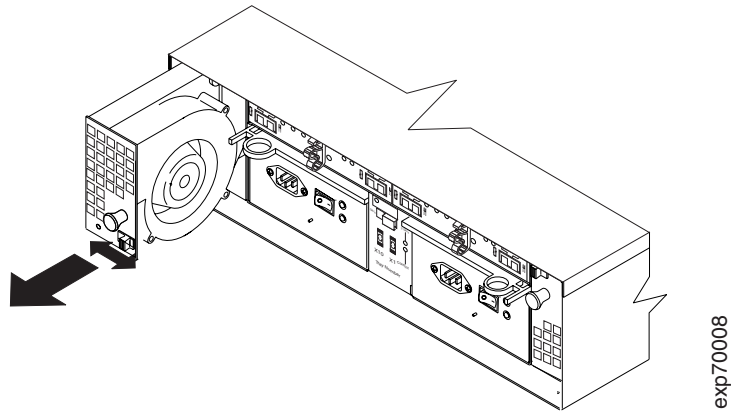

Figure 54. Replacing a hot-swap cooling fan
- b. Use the handle (black knob) to pull the fan from the fan bay as shown in Figure 54 on page 75.
The open side of the fan CRU faces the power supply and ESM CRUs. If the fan does not go into the bay, rotate it 180°. (See Figure 54.)